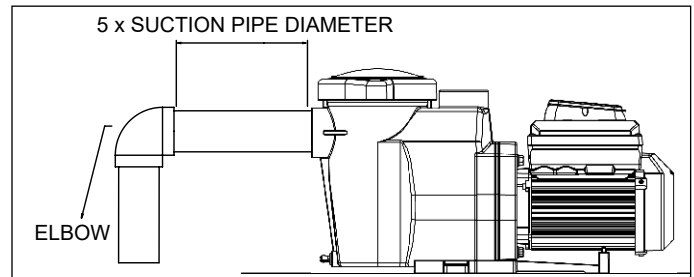

Figure 2
4. For most installations, always install a valve on both the pump suction and return lines so that the pump can be isolated during routing maintenance. However, it is also recommended that a valve, elbow or tee installed in the suction line should be no closer to the front of the pump than five (5) times the suction line diameter. (See Figure 2.